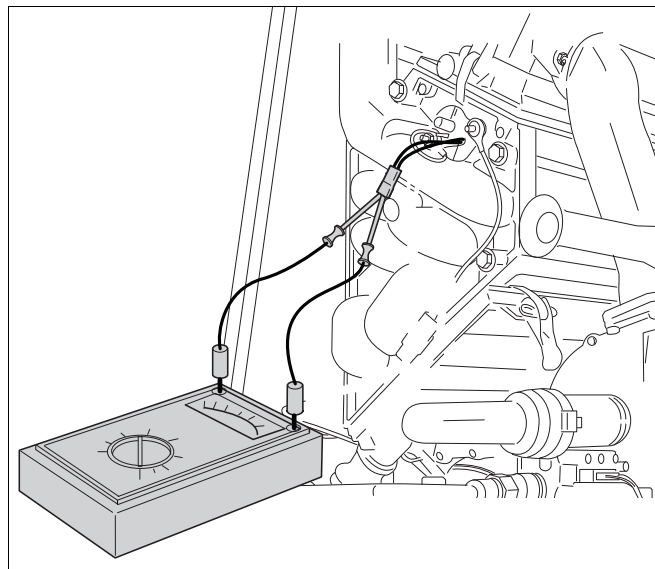

fig. 20 Checking the hot surface ignitor
- Test the resistance of the hot surface ignitor on the plug. A resistance value between 50 – 300 Ω means that the hot surface ignitor is OK (see fig. 20).